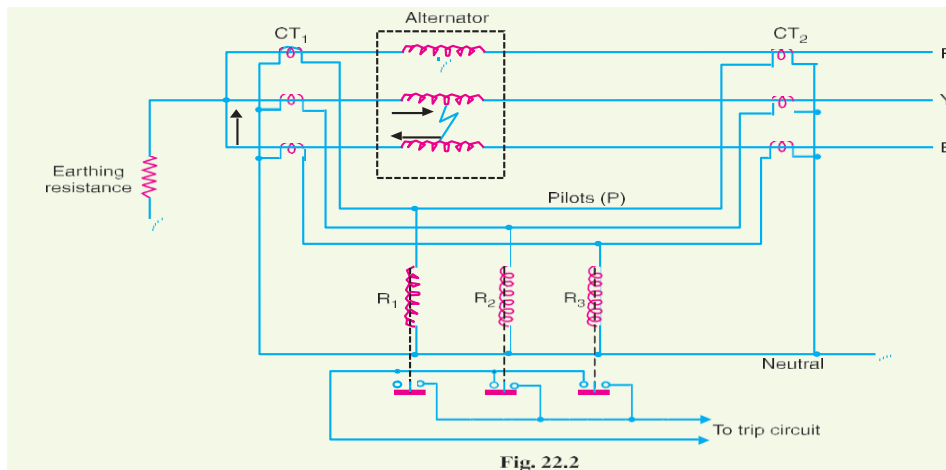

Fig. 22.2
**Operation:** The relays are connected in shunt across each circulating path. Therefore, the circuit of Fig. 22.2 can be shown in a simpler form in Fig. 22.3.